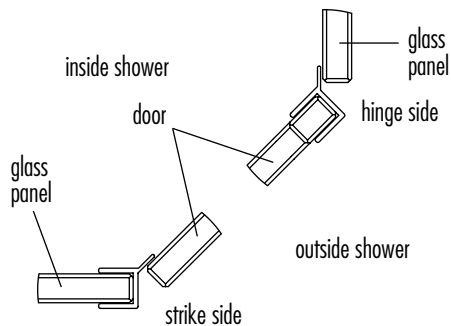

figure 46
11. Locate the plastic H shaped seals. One goes on the glass panel on the door strike side, and one goes on the door on the hinge side (fig. 46). Measure and cut the seals to length.